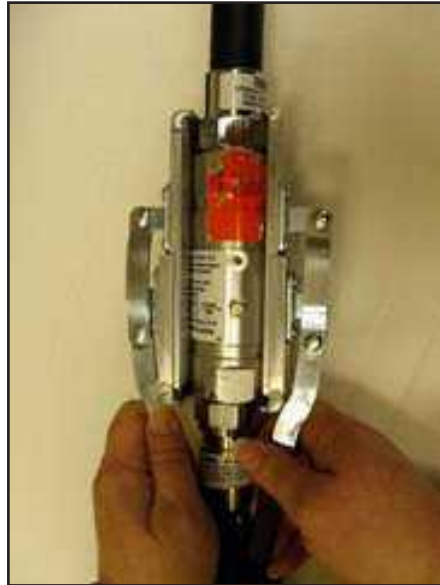

Figure 4
6. Align the dowel pin in the bottom half of the breakaway with the dowel pin guide located in the top half of the breakaway. When the dowel pin and guide are aligned, continue squeezing tool grips until the breakaway halves come together. See Figure 4